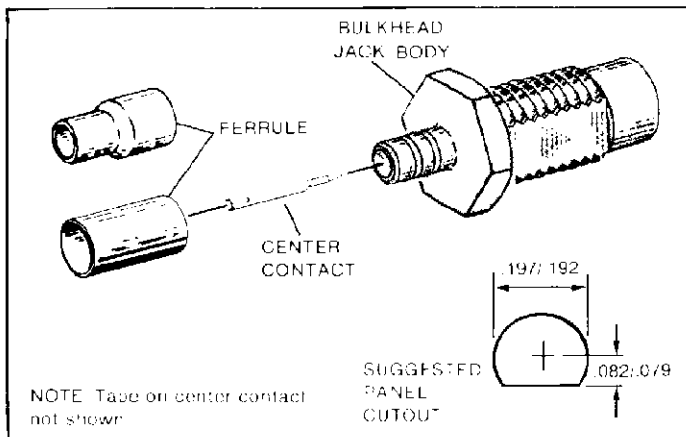
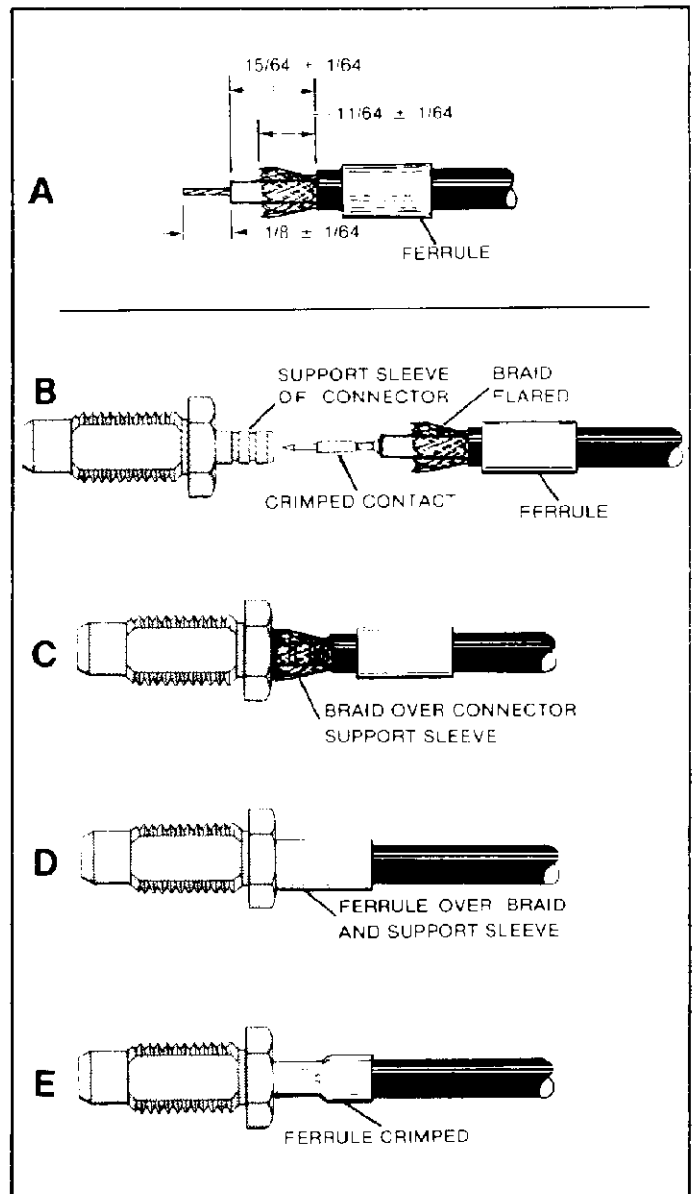

Figure 2
Figure 3
Figure 2 shows a typical COAXICON series SMC connector assembly. Detailed crimping instructions are packaged with the crimping tools and dies. Refer to Figure 3 and steps below for assembly procedure.
2. CONNECTOR ASSEMBLY (Figure 3)
- (a) Slide ferrule onto cable and strip cable to dimensions shown. (Note orientation of stepped ferrule in figures 2 and 4.) Flare braid.